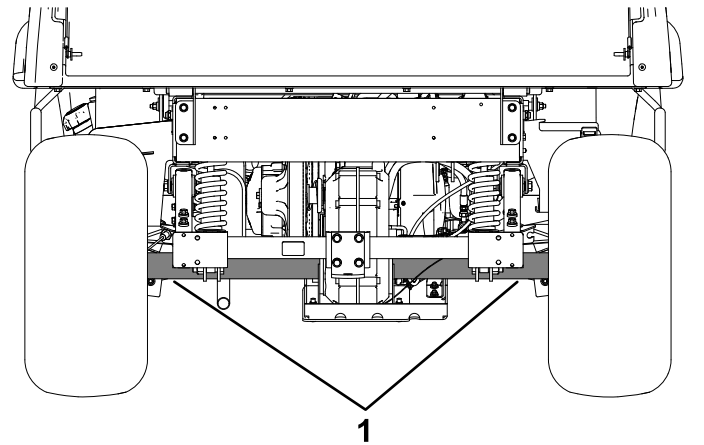

Figure 20
- The lifting point at the rear of the machine is located under the axle tubes (Figure 20).